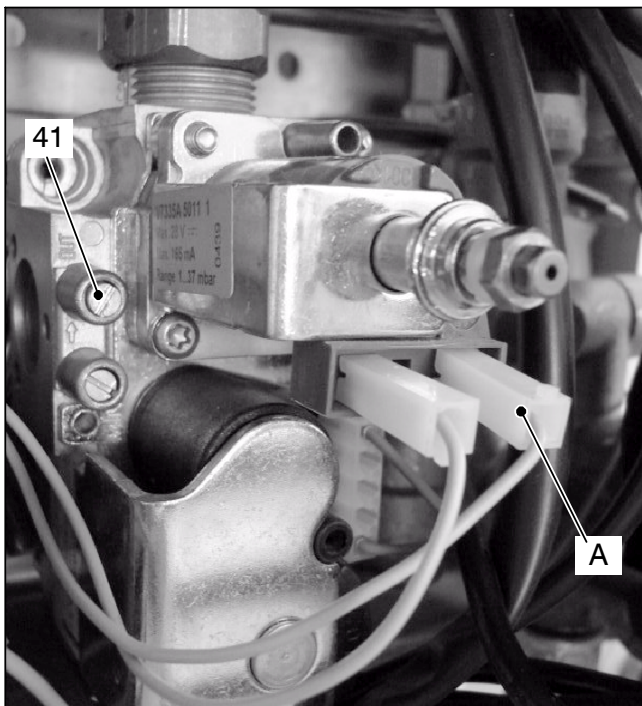

Fig. 7.4
- 2 Loosen the internal screw 41 (Fig. 7.4) on the Outlet Pressure Test Point of the Gas Valve and connect a pressure gauge using a suitable hose.
- 8 Disconnect the gas modulator coil by removing the electrical connector A (Fig. 7.4).
- 2 Open the gas valve outlet pressure test point 41 (Fig. 7.4) and connect the gauge.